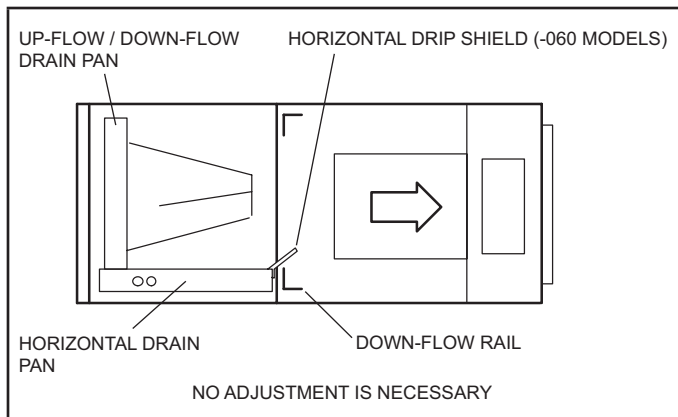

FIGURE 4. Right-Hand Discharge Configuration
- 2 - Install the horizontal drip shield (-060) on the front edge of the horizontal drain pan as illustrated in figure 4.